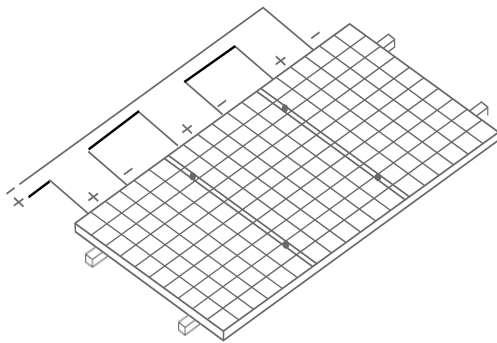

Figure 17 Connection in series
- ◇ When selecting the bolt installation method, ensure that there are at least four bolts on each Module, and the bolts need to be arranged symmetrically (Figure 17). The different mounting positions of the bolts affect the maximum load capacity of the Module (Table 3).